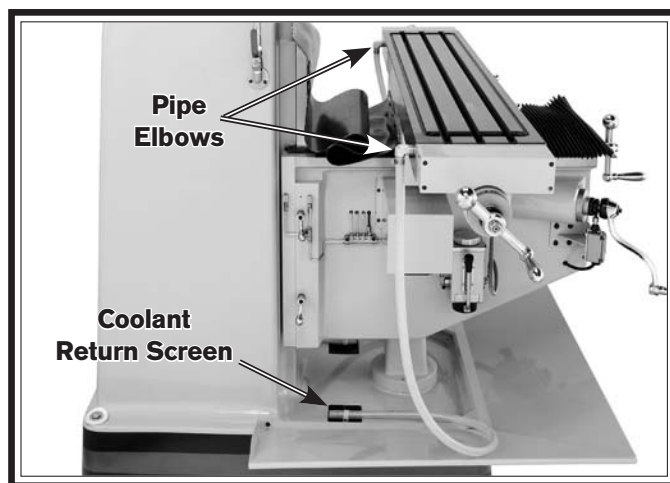

Figure 14. Coolant return hose connections.
12. Use Teflon tape or pipe sealant on the threads of the pipe elbows, then thread them into the coolant drain holes located on both ends of the table, as shown in **Figure 14**.
15. Loosen the hose clamp screws above the coolant return screens in the base (see **Figure 14** on the previous page), insert the hoses so that they will drain into the screens, then re-tighten the clamp screws to secure them in place.